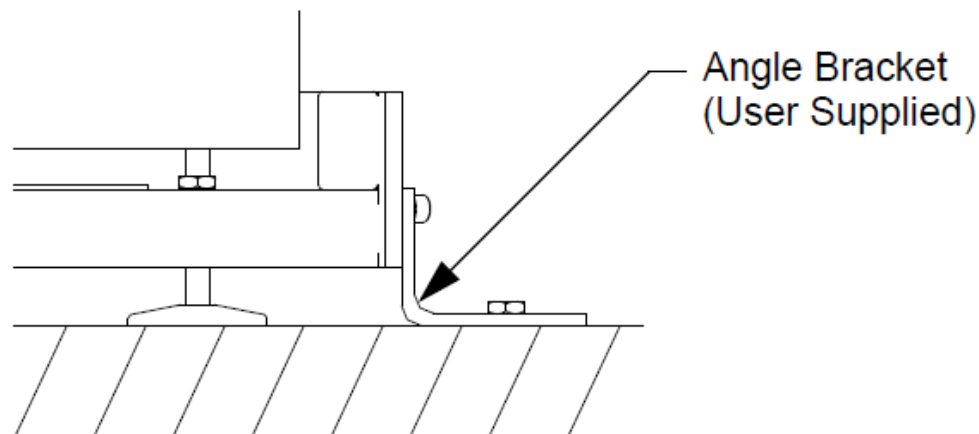

Figure 3-4: Typical Seismic Bracket Mounting
Seismic brackets must be provided to secure the Marathon Express 400 to the floor to eliminate movement and for earthquake protection. The caster brackets must be removed from the system and the system secured with angle brackets (not supplied) using the tapped holes in the side of the frame as shown in Figure 3-4.
1.	Locate the Seismic Brackets at the points the casters were attached to the frame as shown in Figure 3-4 .
3.	Replace the (4) bolts and washers to secure the bracket to the frame.